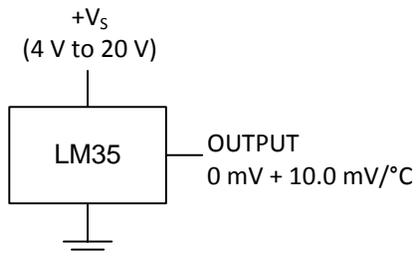

Figure 14. Basic Centigrade Temperature Sensor (2 °C to 150 °C)
Unless otherwise noted, these specifications apply: $-55^{\circ}\text{C} \leq T_J \leq 150^{\circ}\text{C}$ for the LM35 and LM35A; $-40^{\circ}\text{C} \leq T_J \leq 110^{\circ}\text{C}$ for the LM35C and LM35CA; and $0^{\circ}\text{C} \leq T_J \leq 100^{\circ}\text{C}$ for the LM35D. $V_S = 5\text{ Vdc}$ and $I_{\text{LOAD}} = 50\ \mu\text{A}$, in the circuit of Full-Range Centigrade Temperature Sensor. These specifications also apply from 2°C to T_{MAX} in the circuit of Figure 14.
(6) Quiescent current is defined in the circuit of Figure 14.